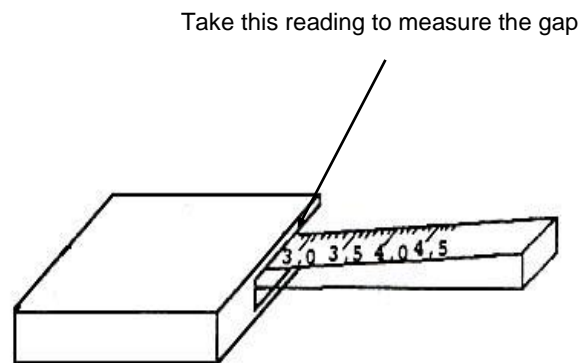

FIG 27.
- When a taper gauge is used, it must be pushed into the gap lightly until the top and bottom faces of the gauge are in contact with the material forming the gap. (Fig 27)